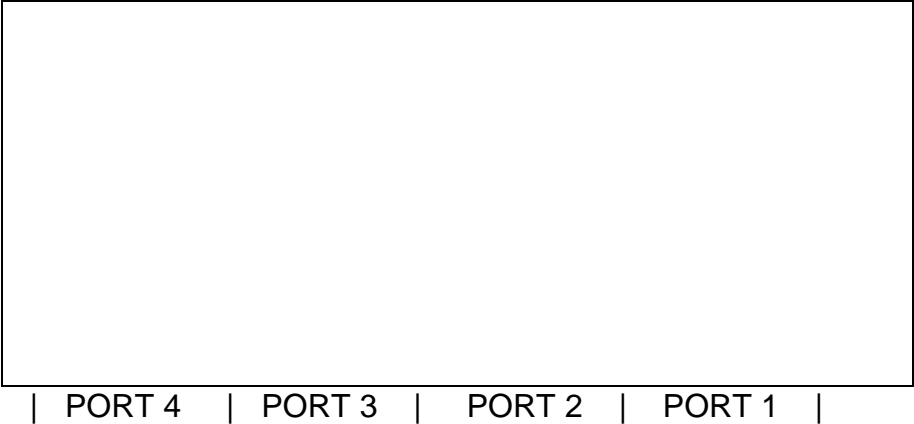

Figure 29
Each EIA-232 port can be configured so DCD can be an input or output signal by positioning jumpers on the main board of the module for each individual port. See V74 & V75 Jumper selection layout (Figures 29 & 30 or V75 Mechanical Layout Section D.2).
1. **V75** (See Figure 29)--- Each port's jumper position for "ground" connects the center pin and the pin located closest to the RJ-45 connector.
1. **V75** (See Figure 29)---Install the two position jumper so that it connects the center pin and the pin farthest away from the RJ-45 port. Do not move the other jumpers.
A. DCD "GROUND" is the default setting where DCD is not used by either end of the connection(modems are not used). See figures 29 & 30 for jumper locations.
B. DCD "OUT" or high for computers or terminals connected to the V74 or V75 that will to be communicating with a modem. See figures 29 & 30 for jumper locations.
C. DCD "IN" or low which is necessary when a V74 or V75 port is connected to a modem. See figures 29 & 30 for jumper location.
Refer to Figure 29 on previous page and locate the eight jumper locations for serial interface selection. These jumper locations are marked on the mechanical layout as JP13 and JP14 for Port 1, JP15 and JP16 for port 2, JP17 and JP18 for Port 3 and JP19 and JP20 for Port 4.